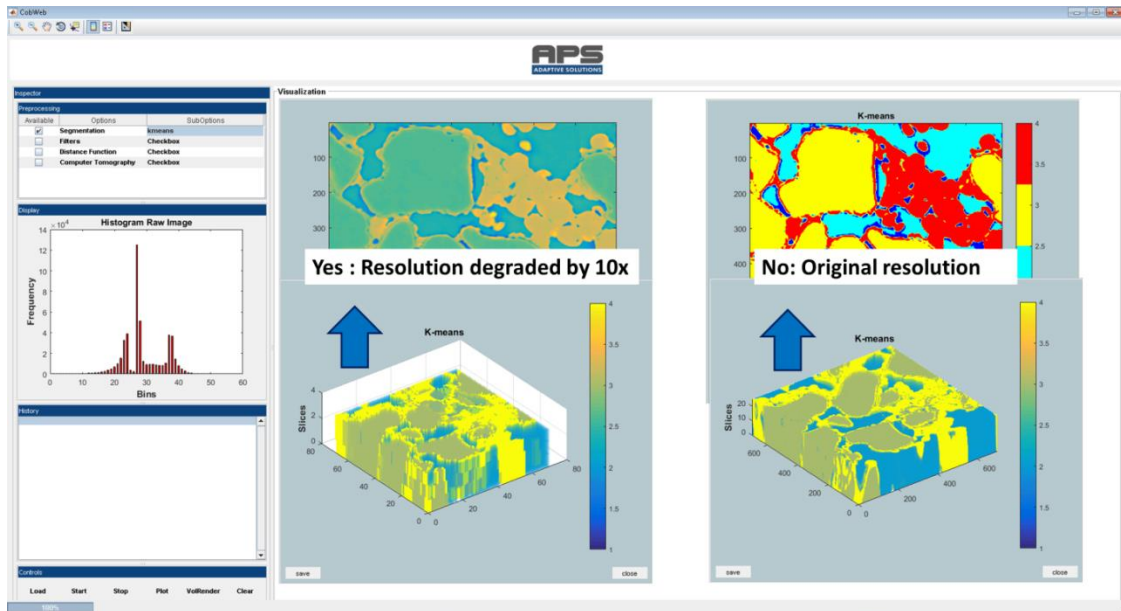

Figure 47: Volume rendering using CobWeb 1.0
- Figure 47 displays the rendered REV of gas hydrate in reduced (Yes option selected) and high resolutions (No option selected).